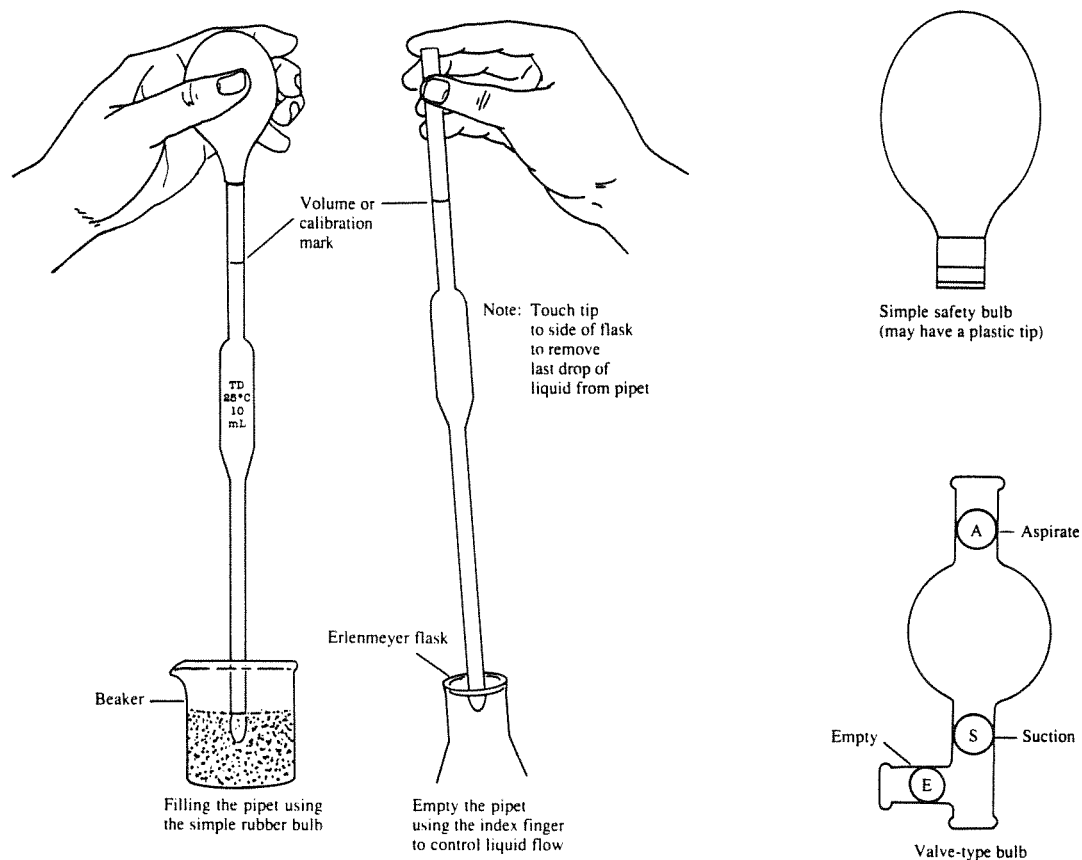

Figure 1.4 A typical volumetric pipet, rubber bulbs, and the pipet filling technique.
Pipets are glass vessels that are constructed and calibrated so as to deliver a precisely known volume of liquid at a given temperature. The markings on the pipet illustrated in Figure 1.4 signify that this pipet was calibrated to deliver (TD) 10.0 mL of liquid at 25°C . *Always* use a rubber bulb to fill a pipet. NEVER USE YOUR MOUTH! A TD pipet should not be blown empty.